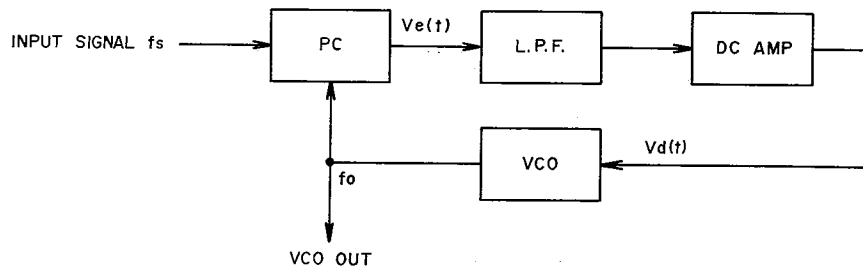

Fig. 13 PLL Circuit
PLL circuit is a kind of feedback circuit and is comprised of a Phase Comparator (PC), a Low Pass Filter (LPF), a Direct Current Amplifier (DC Amp.), and a Voltage Control Oscillator (VCO) as shown in Fig. 13. The PC compares input signal F_s and VCO oscillator output and generates the difference in signal voltage $V_e(t)$ proportionately to this phase deviation. This $V_e(t)$ passes LPF and the DC Amp. and becomes control voltage. This control voltage supplied to VCO and VCO oscillation frequency is DC controlled. When there is no input signal F_s , because there is also no $V_e(t)$, control voltage $V_d(t)$ becomes zero, and VCO maintains a *Free-running oscillation frequency. When a signal enters, VCO oscillation frequency F_o is controlled to narrow the difference between F_s by means of feedback as described above, and the PLL circuit assumes a synchronous condition. This is referred to as input signal lock. (In case the difference between F_o and F_s is too large, the differential signal frequency becomes high and is reduced at the LPF. However, because the VCO control voltage does not change, PLL will not stay within the *lock range).